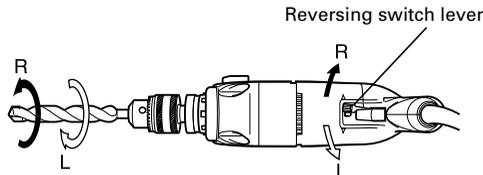

Fig. 6
**6. Confirm the direction of bit rotation (Fig. 6)**